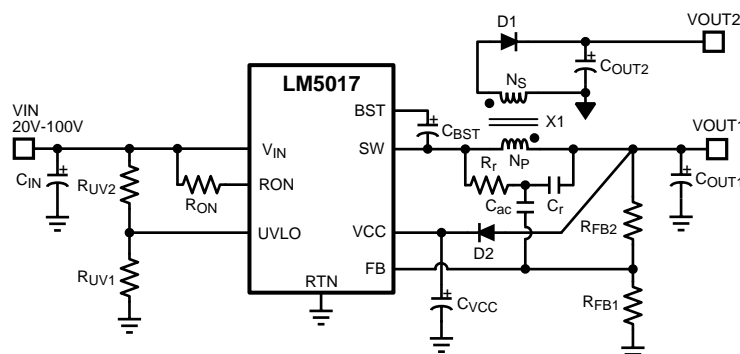

Figure 18. Typical Isolated Application Schematic
An isolated supply using LM5017 is shown in Figure 18 below. Inductor (L) in a typical buck circuit is replaced with a coupled inductor (X1). A diode (D1) is used to rectify the voltage on a secondary output. The nominal voltage at the secondary output ( $V_{OUT2}$ ) is given by: